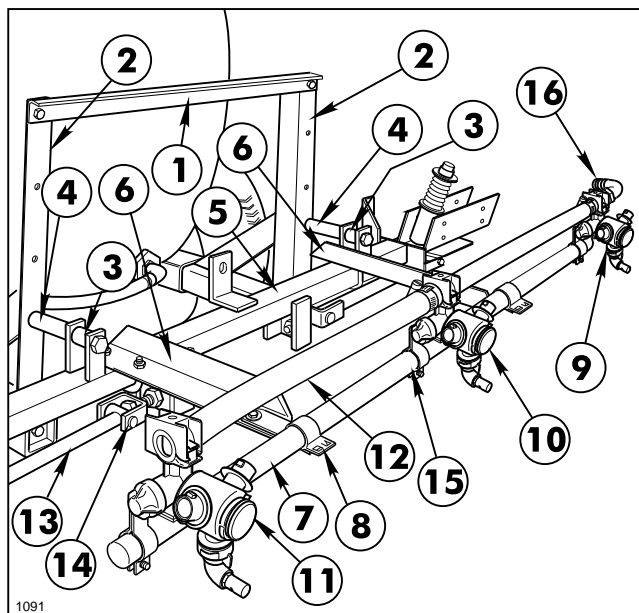

FIG. 11
3. Position the Spacer Tubes between the Boom Mount uprights and the lugs on the Main Frame Tube. Use two 1/2" x 4" hex hd cap screws and lock nuts to secure the Main Frame Tube to the uprights. See FIG. 11.
5. Position the two (2) Center Boom angles on the Main Frame and secure them to the Main Frame tube with two (2) square U- bolts, four (4) flat washers and hex nuts. See FIG 11.
6. Center and attach the Center Boom Pipe to the two Center Boom Angles with two (2) clamps, 3/8" x 1" cap screws, flat washers and lock nuts.
7. Loosely attach the Double Barb Turret Body with the Turret Body Clamp in the approximate center of the Center Boom Pipe. For the most uniform spray coverage, position all Nozzles level as shown in FIG. 11.
9. Place two Hose Clamp on two 3/4" x 19" Jumper Hoses and connect the two "end" Turret Bodies to the Double Barb Turret Body. Space nozzles 20" apart and tighten fasteners securely. Apply thread sealer and install the 90° 3/4" Hose Barb on the Threaded Turret Body. See FIG. 11.
10. Attach the two Strut Assemblies to the two Adjustable Clevises found on each side of the Main Frame tube with two (2) 1/2" x 2" clevis pins and two (2) 1/8" x 1" cotter pins. See FIG. 11.
15. Adjust the Booms to a level position by adjusting the jam nuts on the Adjustable Clevises (See FIG. 11) to the desired position, then tighten the end nuts against the Main Frame Plate.